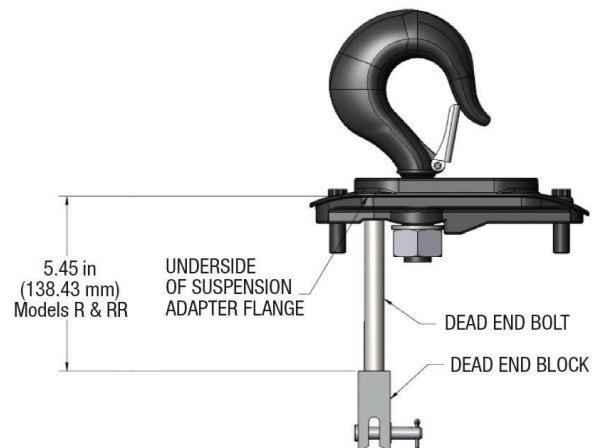

Figure 7. Double-Reeved Suspension Assembly
Remove the hook suspension, (2) suspension screws, (1) dead end pin, (1) washer, and (1) cotter pin from the packaging. Note that the suspension includes a dead end bolt and block for supporting the dead end of the load chain as shown in Figure 7.